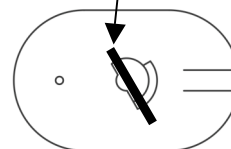

Figure 5
5. Place the cam on top of the cylinder. Make sure the cam is aligned as shown in Figure 5 after installation.